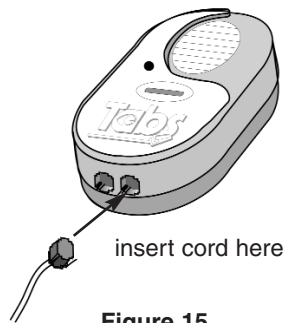

Figure 15
2. Plug the TABS® pressure pad cord into the right jack on the bottom of the TABS® monitor (Figure 15). An alarm will sound if a pad is plugged into the nurse call (left) jack and weight is applied to the pad.